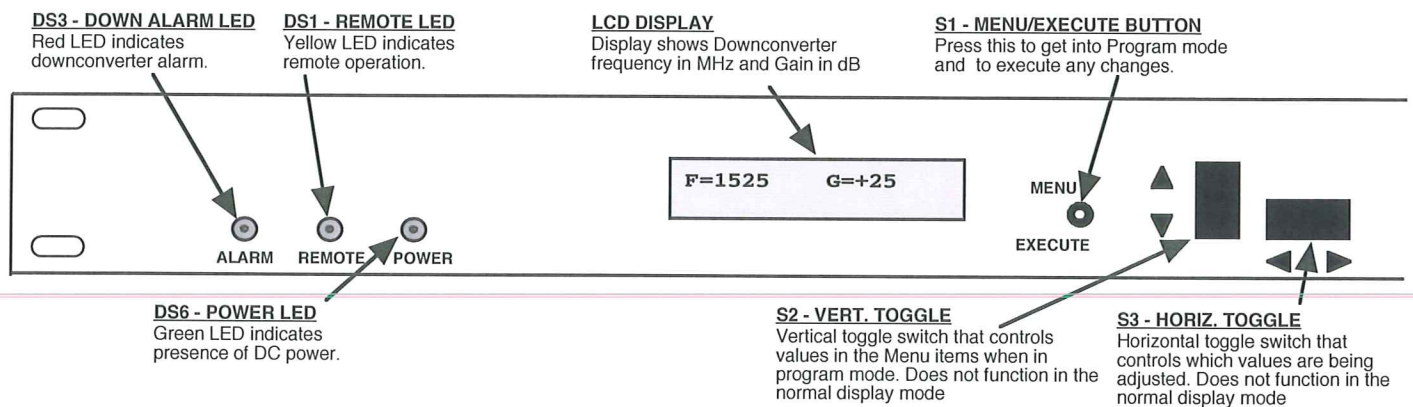

FIGURE 2.3 2016-0717 Front Panel Controls and Indicators
6. Be sure DS6 (green, DC Power) is on and DS3 (red, Alarm) is off (Figure 2.3).
Alarm indications appear on the LEDs (see figure 2.3).